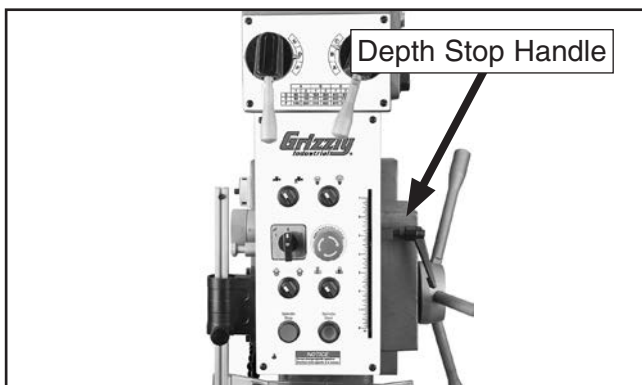

Figure 20. Setting depth stop handle.
6. Loosen the depth stop handle, move the drill bit to the required drilling depth, and tighten it (see **Figure 20**).